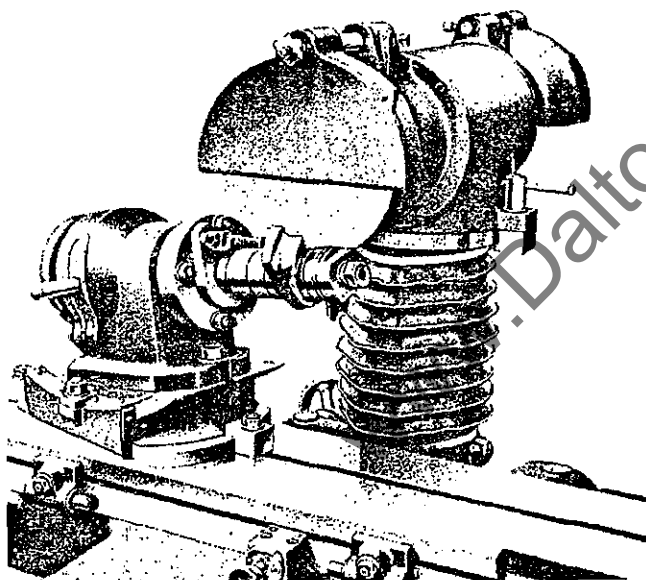
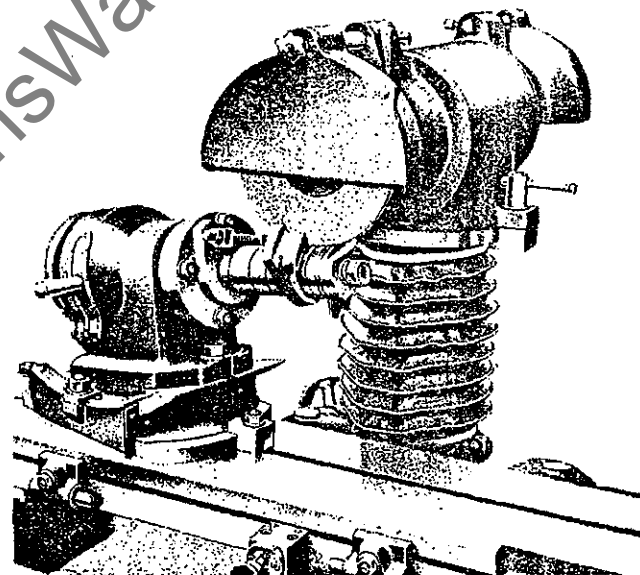

Fig. 50. Setting up for Grinding.
Fig. 51. After the initial setting the cutting edges are presented to the grinding wheel in turn, being located correctly by the dividing head.
Sharpening is done by grinding off the front edge of the teeth. The tooth curve is shaped so that the correct profile is retained and all the cutting points keep on the same periphery after grinding. To achieve this the same amount of material must be ground off the front edge of each tooth. The cutting angle of this type of cutterhead is usually 30° and it is pointed out that this angle must not be altered, as this would give rise to differences in the tooth profile. The block, then, must be reground on the front edge of each tooth at the correct cutting angle. To maintain this angle the cutter must be fed into the wheel radially. This is affected by fitting an arbor with a radial feed attachment. By this means the original cutting angle and profile can be maintained. This type of arbor is shown in Fig. 50. To set the cutter a setting plate is used as this is more accurate than the narrow edge of the dished wheel.
- (3) The bore in the swivelling base should be placed over the register and the base held to the table by tee bolts in the table tee slot. Lock in position by clamp nuts.
- (4) Place the canting slide on the swivelling base and lock by hexagonal nuts.
- (5) The dividing head should now be placed on the canting slide and bolted in position.
- (6) Add complete arbor to the dividing head faceplate, keeping the radial feed screw at the top.
- (7) Place cutter on the arbor and position by loose collars. Screw on nut "A" finger tight.
- (8) Release clamp nuts on swivelling base and canting slide, traverse the wheelhead and table until the cutter face lies flat on the setting plate. (Fig. 50).
- (9) Carefully lock the canting slide, swivelling slide and nut "A". Check that the cutter has not moved out of alignment.
- (10) Remove setting plate and relock wheel.
- (11) Set dividing head index for number of faces to be ground.
- (12) Traverse wheelhead and table until wheel just touches cutter (Fig. 51), lock table cross slide and traverse table until wheel is clear of cutter. Apply radial feed by rotating screw "C" one division in a clockwise direction. Lock-nuts "B" do not require moving.
- (13) Take an initial cut on one knife, then index block round until all the knives have been ground. Apply more radial feed and proceed in a similar manner until block is satisfactorily ground.